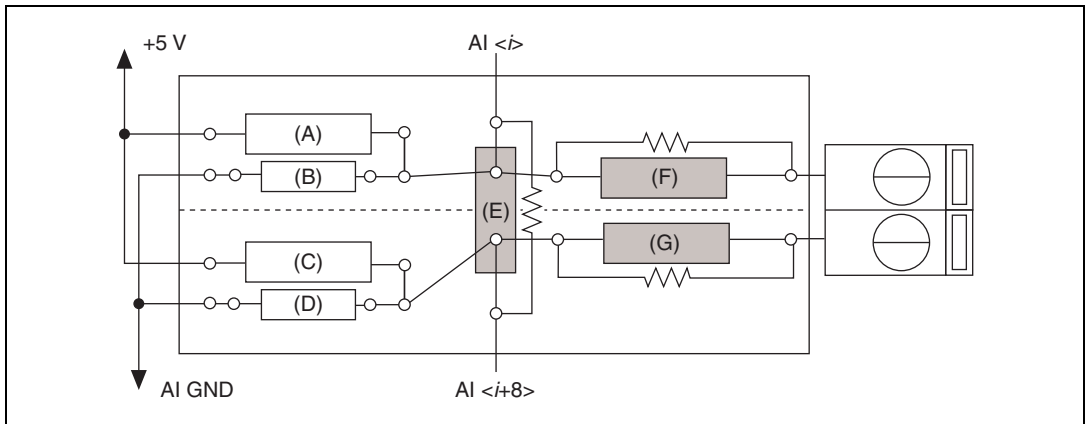

Figure 4-38. SCB-68 Circuit Diagram for Differential Analog Input Attenuation
- Differential analog input attenuators**—To build a three-resistor circuit for attenuating voltages at the differential analog inputs of the SCB-68, refer to Figure 4-38. Refer to Table 4-1 for component positions for all analog input channels.